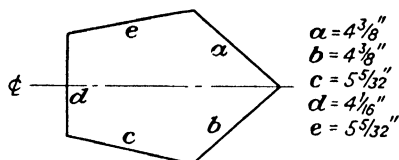

Fig. 55.
8. Find the perimeter of the plate in Fig. 55. Express the answer in feet accurate to the nearest hundredth of a foot.